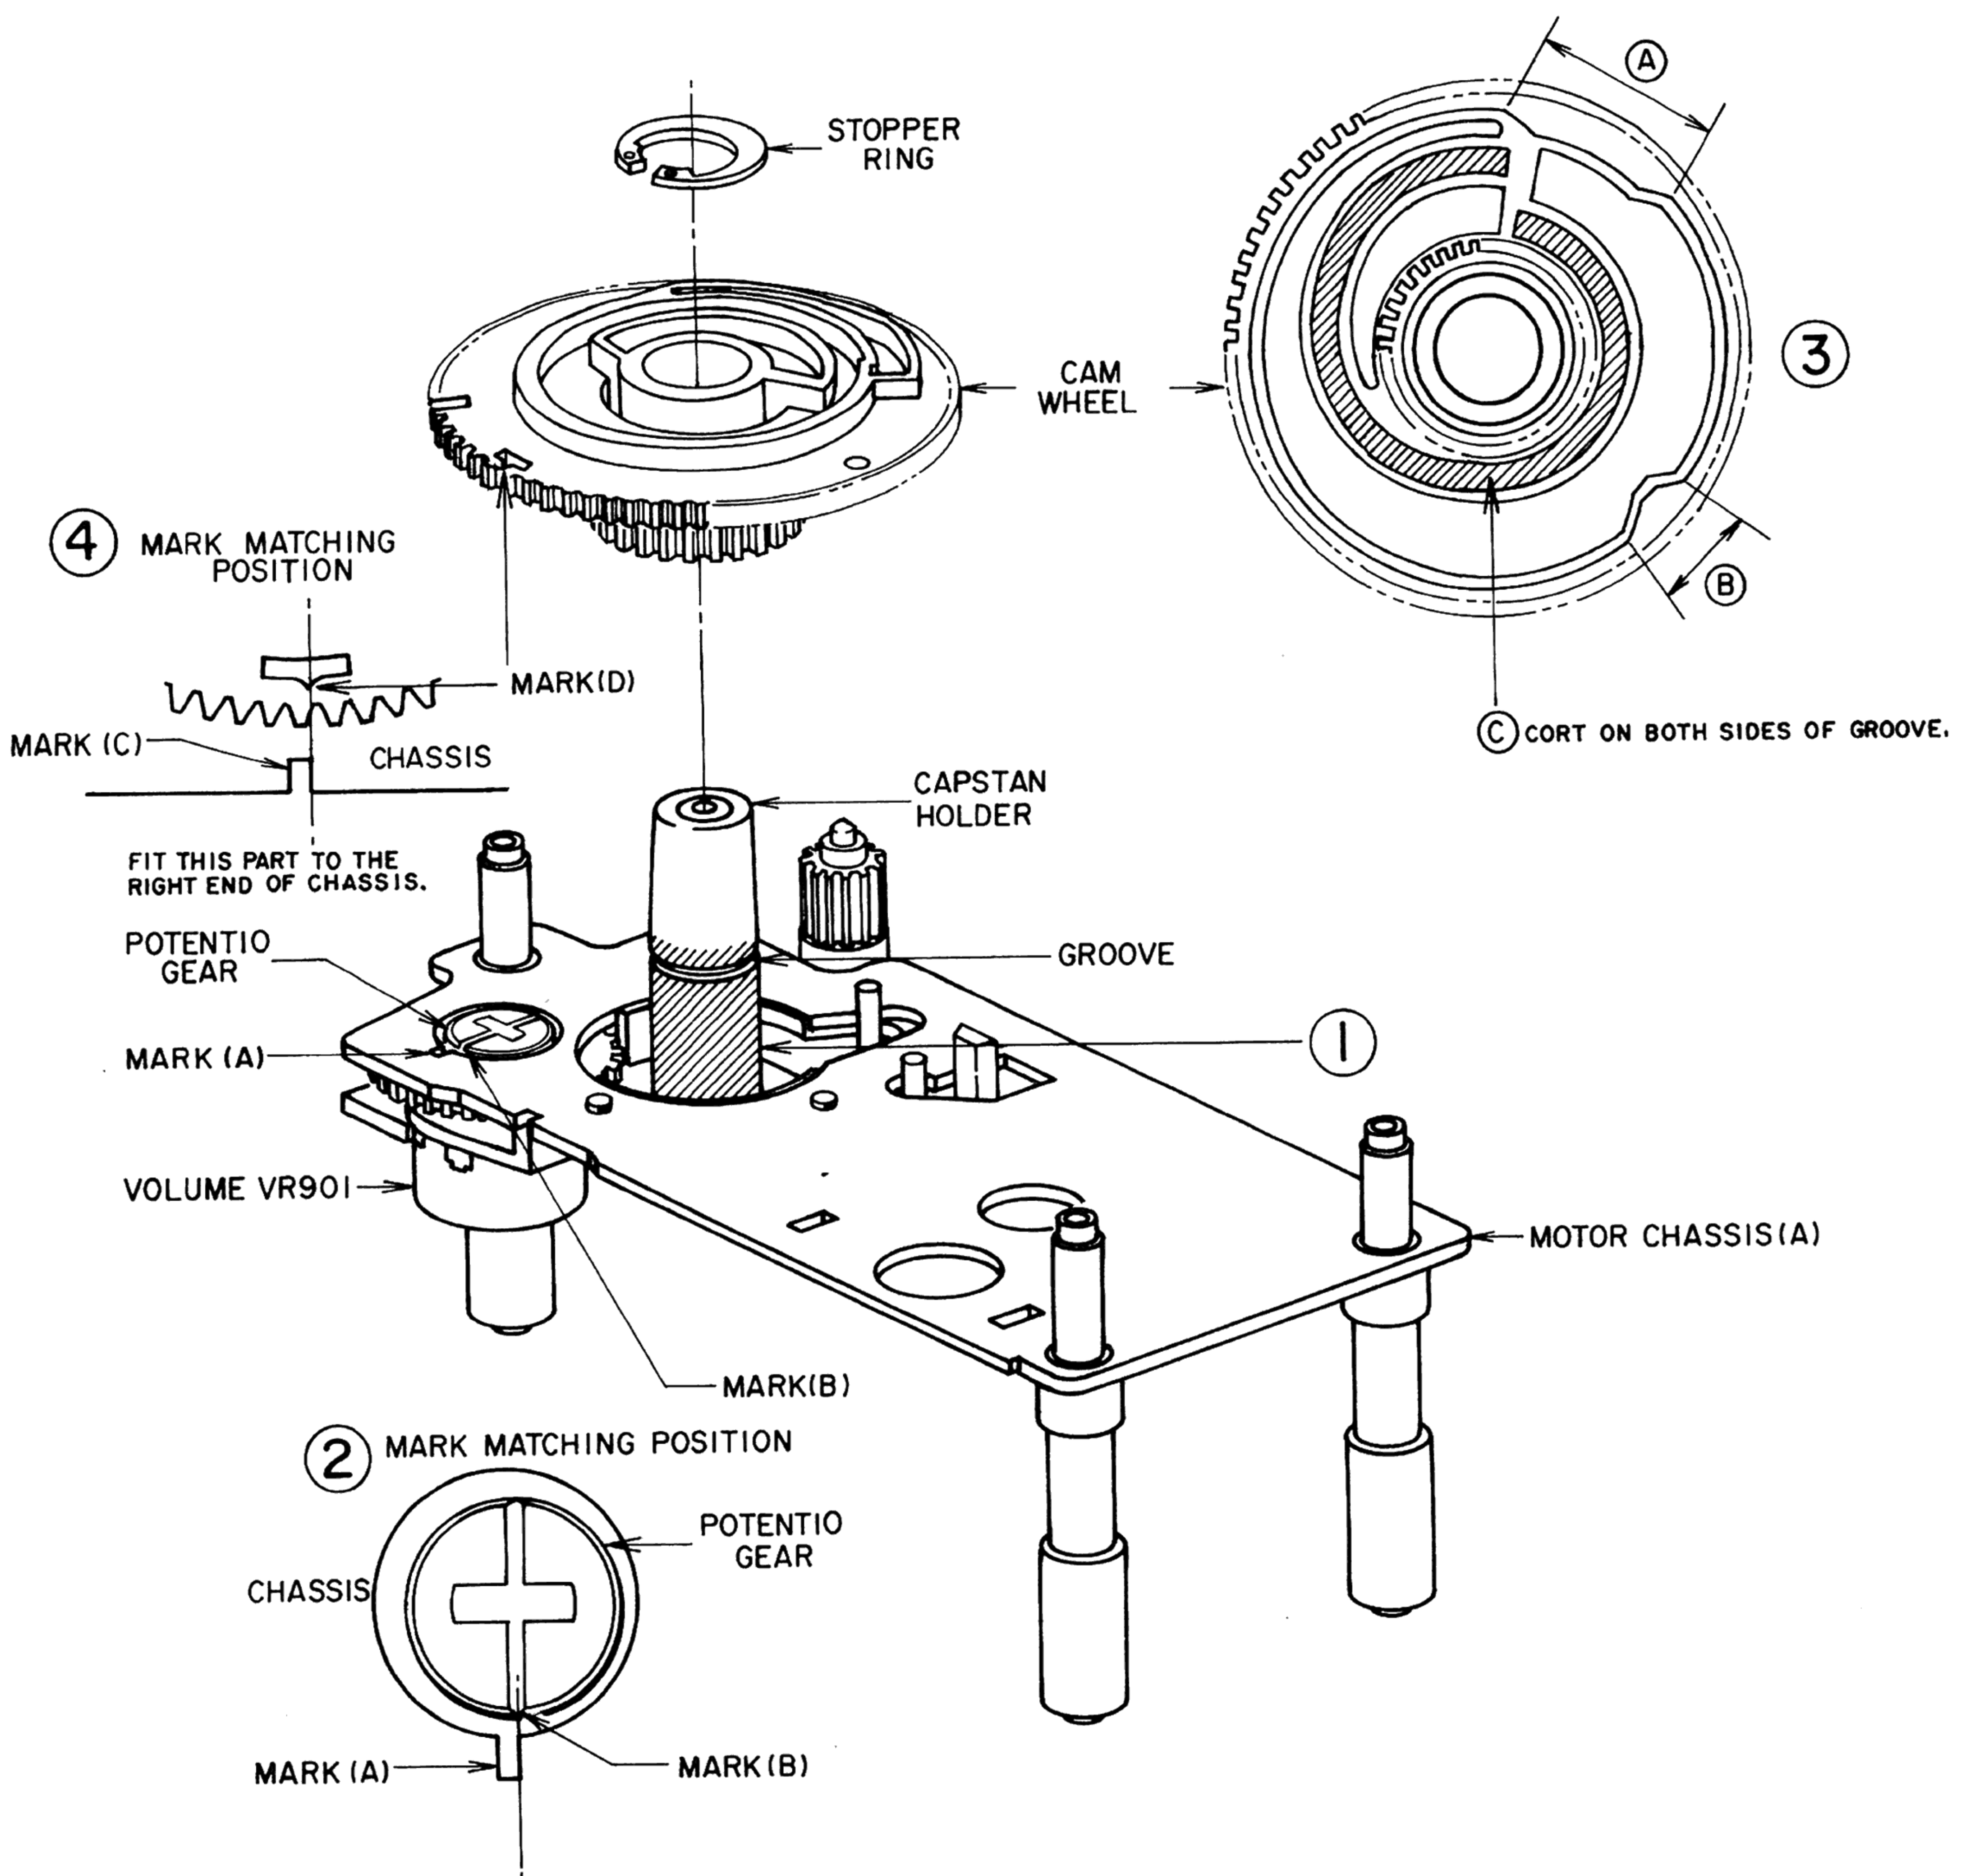

Fig. 5-4
Apply Molybdenum coat on the area of 360° from the bottom to the upside 2mm of groove as shown in the figure. (Fig. 5-4- ①)
Fit the right end of Mark (A) to the center of Mark (B) as shown in the figure. (Fig. 5-4- ②)
- 3) Apply Molybdenum coat on ①, ② and ③ shown in Fig. 5-4- ③.
- center of Mark (D) to the right end of Mark (C). (Fig. 5-4- ④)